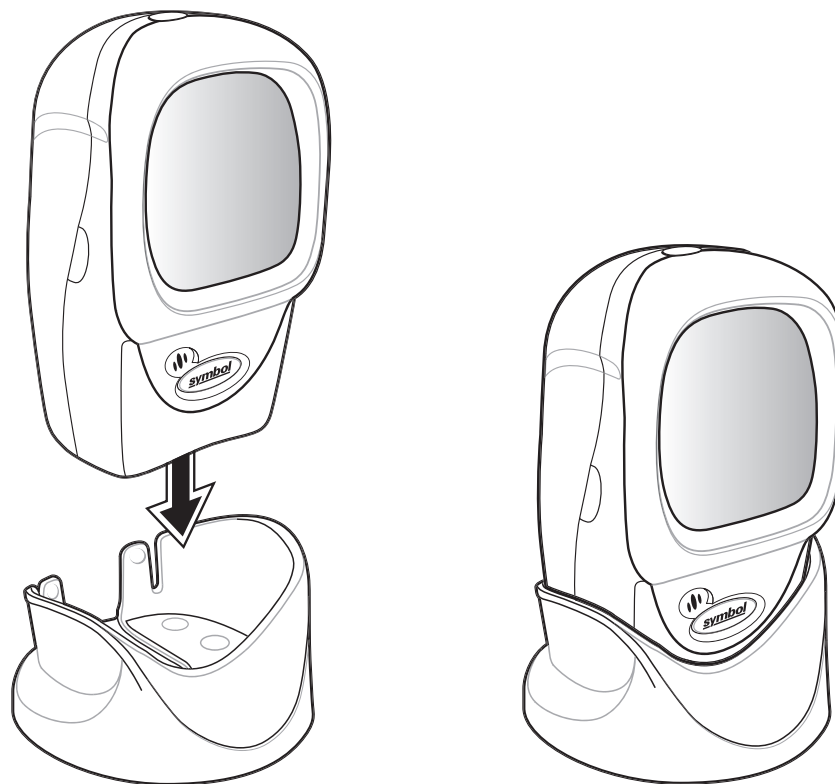

Figure 2-1. Scanner in the Stand
2. Place the scanner in the stand (see Figure 2-1).